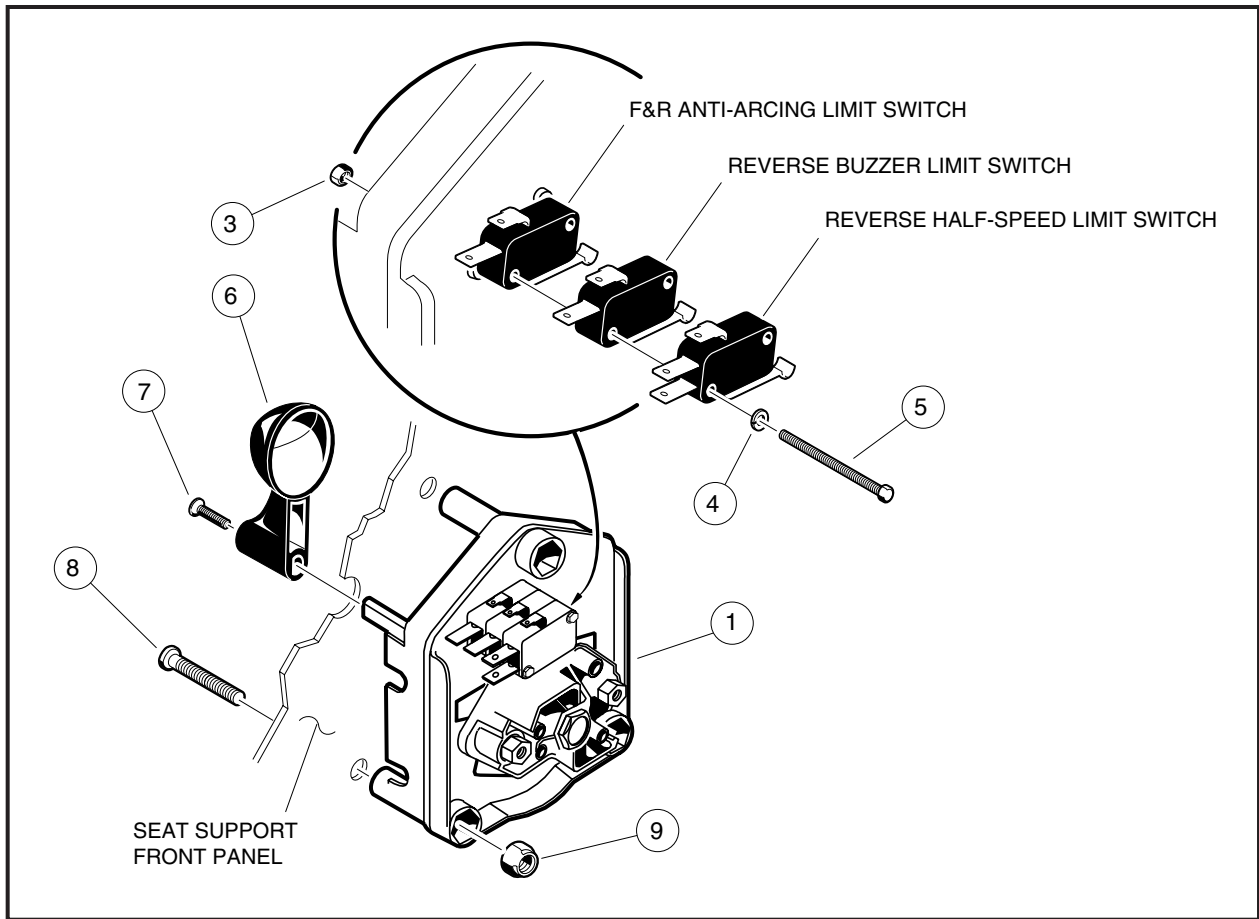

FIGURE 17-14
## FORWARD AND REVERSE SWITCH (FIGURE 17-14, PAGE 17-28)
1. Remove F&R handle (6) by removing screw (7) (**Figure 17-14, Page 17-28**).
2. Remove screws (8) and nuts (9) that mount the F&R switch to the rear body.
The F&R anti-arcing limit switch, reverse buzzer limit switch, and reverse half-speed limit switch are located on the F&R switch and are activated by a cam on the F&R switch rotor (**Figure 17-14, Page 17-28**).
The half-speed resistor assembly is connected to the half-speed reverse limit switch on the F&R switch **(Figure 17-14)**.